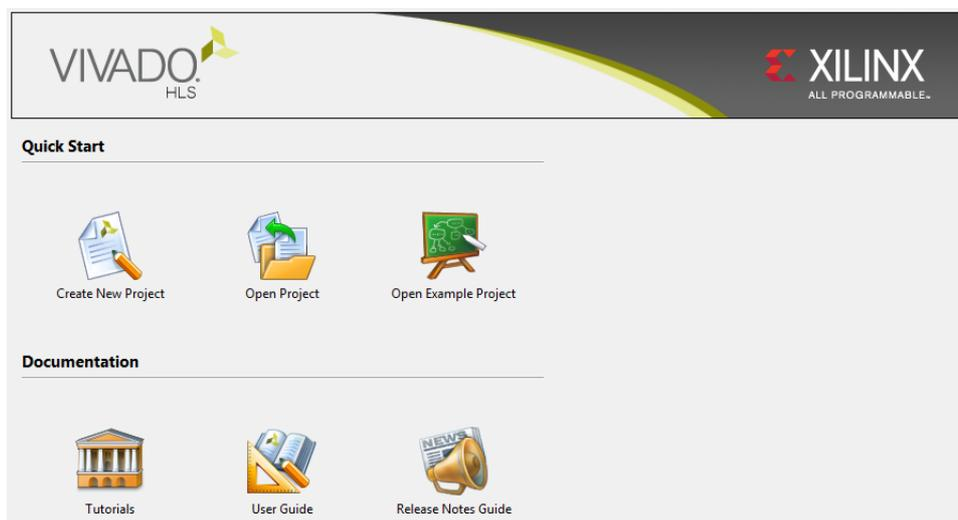

Figure 3.1: Vivado HLS welcome screen
- (c) When the Vivado HLS GUI loads, you will be presented with the *Welcome* screen as in Figure 3.1.
- (d) Select the option to **Create New Project** in Figure 3.1